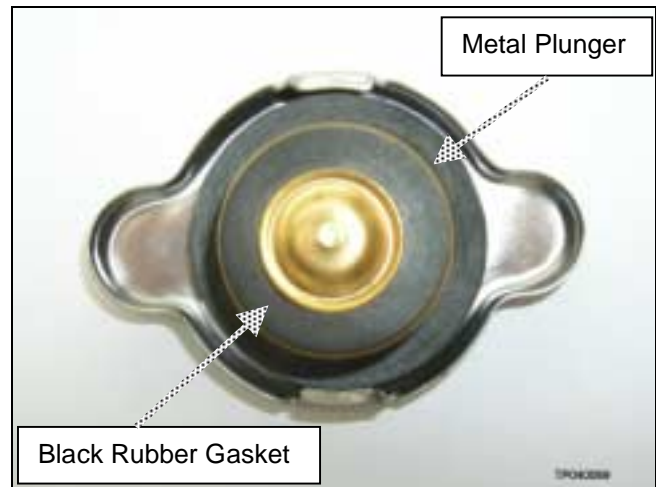

Figure 2
- A. The Black Rubber Gasket should be *smaller in diameter* than the Metal Plunger under it (see Figure 2).